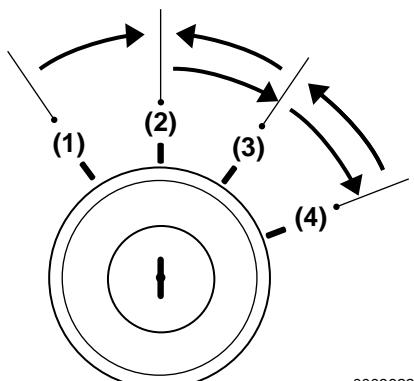

Figure 15
The GLOW position (**Figure 15, (1)**) is the start aid position. Electric current to the glow plug or air heater (if equipped) is turned on. The air heaters is standard on the 4JH4AE and optional on the 3JH4E, 4JH4-TE and 4JH4-HTE models. When the key is released, the switch will automatically move to the ON position.
The START position (**Figure 15, (4)**) allows current to the starting motor. When starting the engine, move the key to the START position and release. The key will automatically move to the ON position.
When the key is in the OFF position (**Figure 15, (2)**) the electric current is off. The key can be inserted or removed in this position.
The ON position (**Figure 15, (3)**) allows electrical current to the controls and equipment and allows the engine to keep running. To stop the engine, keep the key switch in the ON position and push the stop button. After stopping the engine, turn key to OFF position.